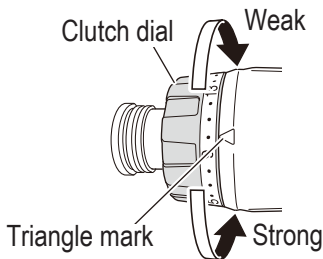

Fig. 13
7. Confirm the clutch dial position (**Fig. 13**)
(2) Tightening torque indication (**Fig. 13**)
(3) Adjusting the tightening torque (**Fig. 13**)